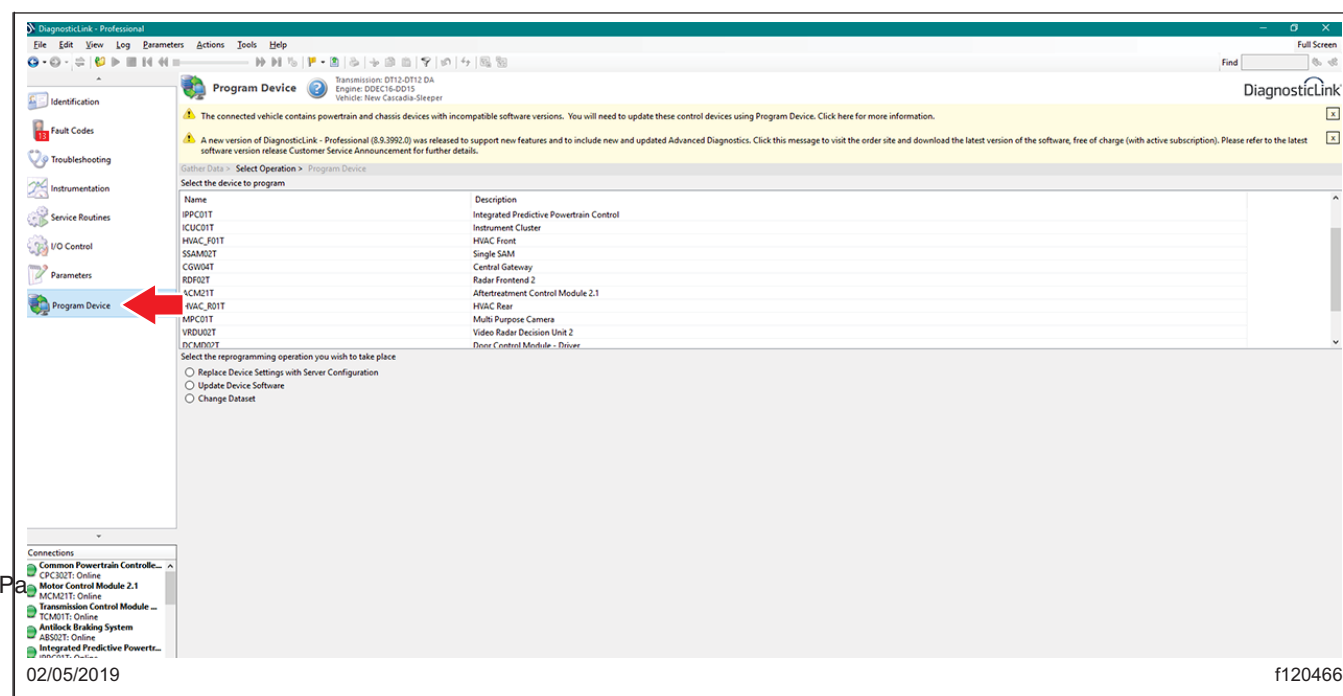

Fig. 2, DiagnosticLink Program Device Panel
4. Go to "Program Device" and click "connect to server." See Fig. 2.